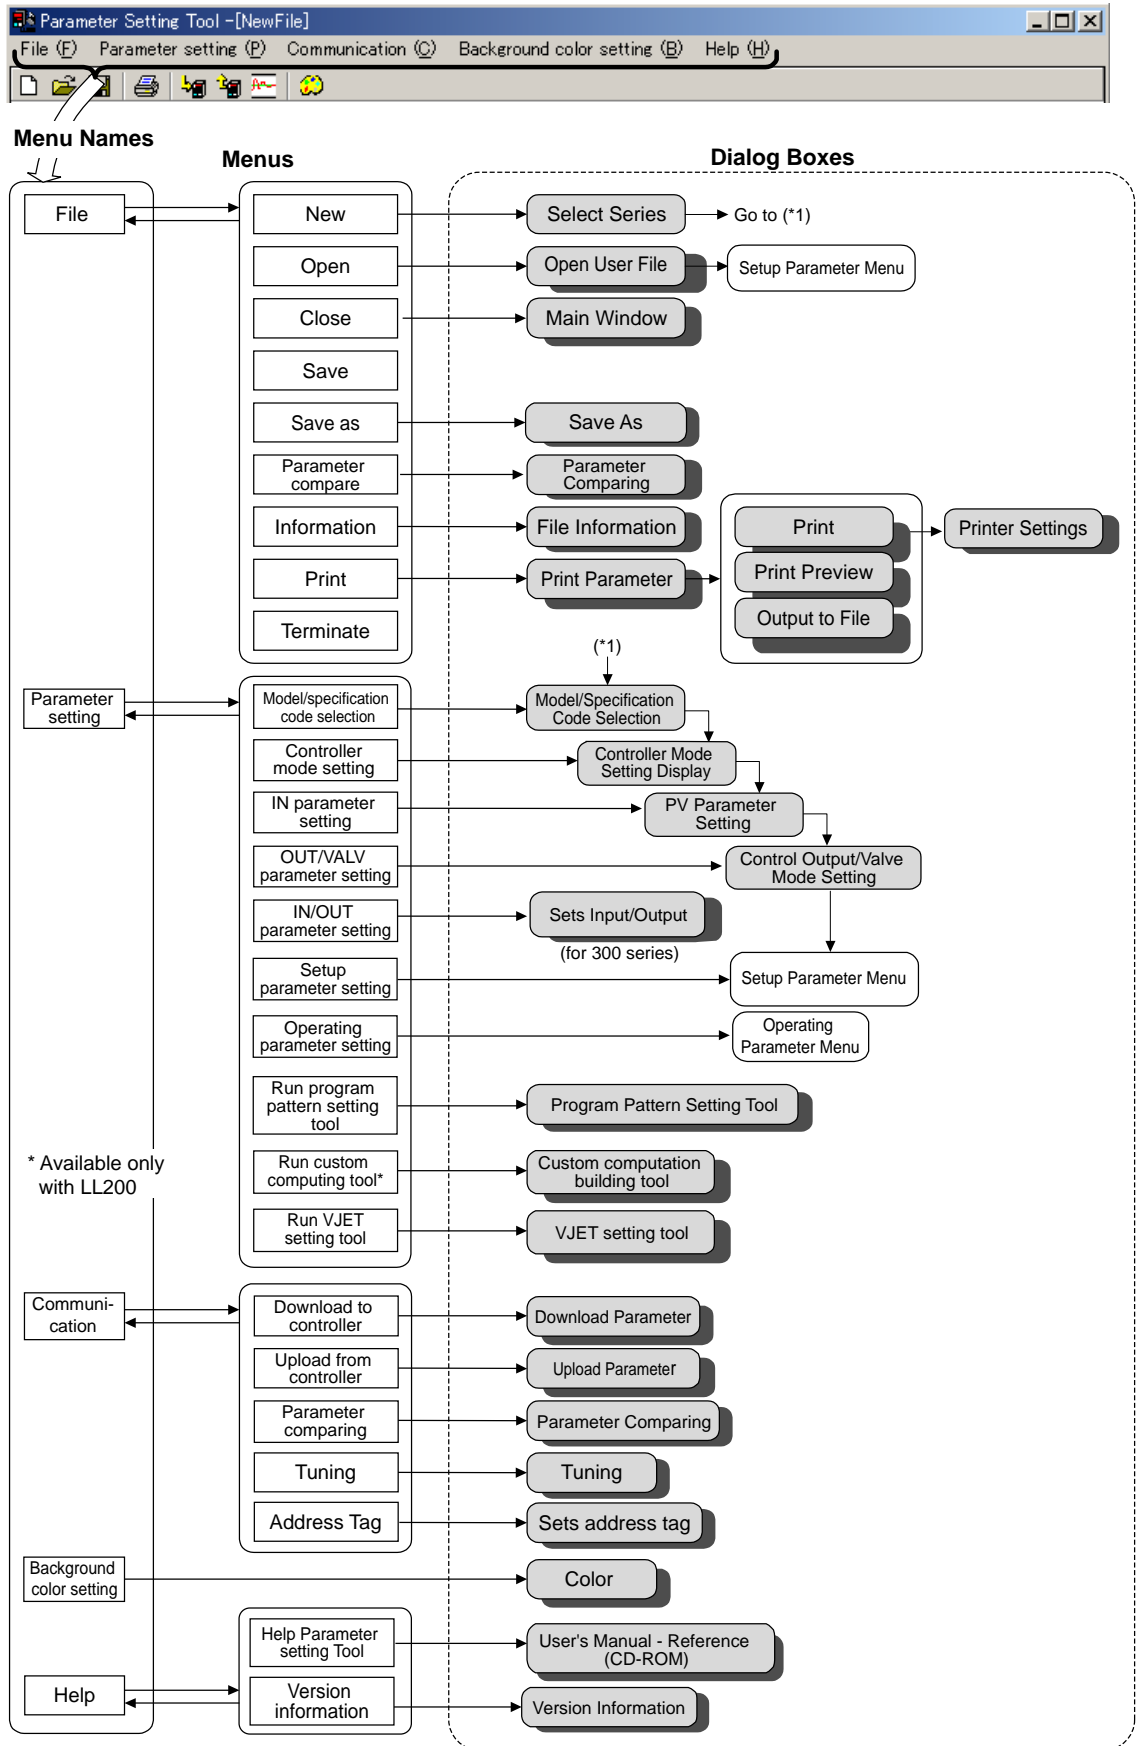

Figure 3.4.1 Tool Menu Items (for Setup and Operating Parameter Menu)
- (1) Click a name on the menu bar.
- (2) The corresponding menu (see Figure 3.4.1) appears; select the command you wish to carry out.